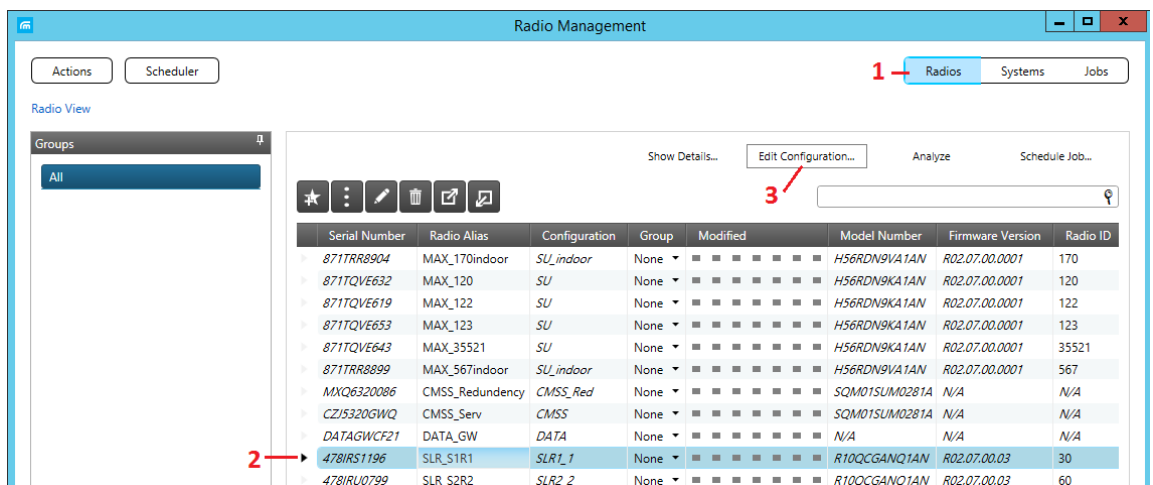

Figure 13: Opening the Capacity Max configuration for a repeater
1. Launch the Radio Management software. Click **Radios** (Figure 13, step 1).
2. In the right panel, click the arrow in front of an entry with the repeater configuration (Figure 13, step 2). Make sure that the entire line is selected.
3. Click the **Edit Configuration** button (Figure 13, step 3).